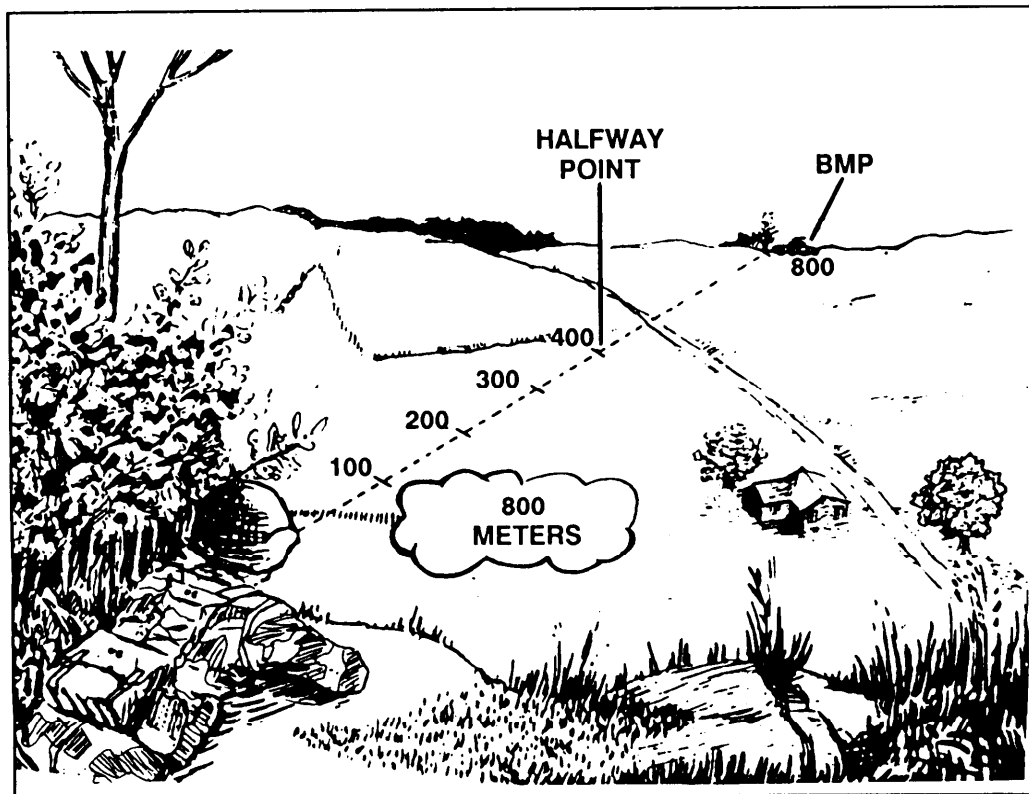

**Figure 5-10. 100-meter unit of measure method,
(1) When using the 100-meter unit of measure method, the gunner must be able to visualize what 100 meters looks like on the ground. With this distance in mind, the gunner can mentally determine the number of 100-meter units between his position and the target. The accuracy of this method is limited to 500 meters or less, and it requires constant practice (Figure 5-10).